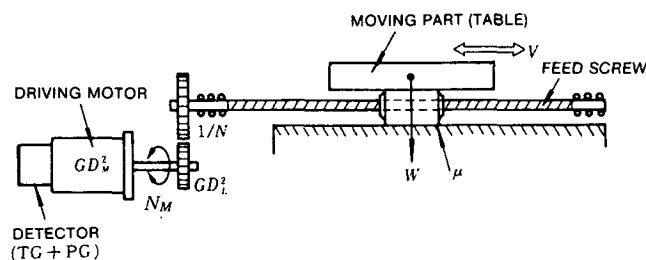

Fig. 12.1 Machine Configuration
When the machine configuration is as shown in Fig. 12.1, the motor power P required to drive the moving part (table) at a constant speed is given by
In a machine configuration as shown in Fig. 12.1, the number of PG output pulses required (F_{PG}) is given by
If the number of pulses of PG determined from equation (10) is other than those shown in Table 9.1, then it is necessary to select a PG having the number of output pulses larger than the calculated value of F_{PG} and then correct it by the setting of special parameter position command unit of the Motionpack-110. Refer to Par. 5.4 "SPECIAL PARAMETERS". For instance, if $\ell_o = 0.001$, $P = 6$ and $1/N = 5/7$ in Fig. 12.1.